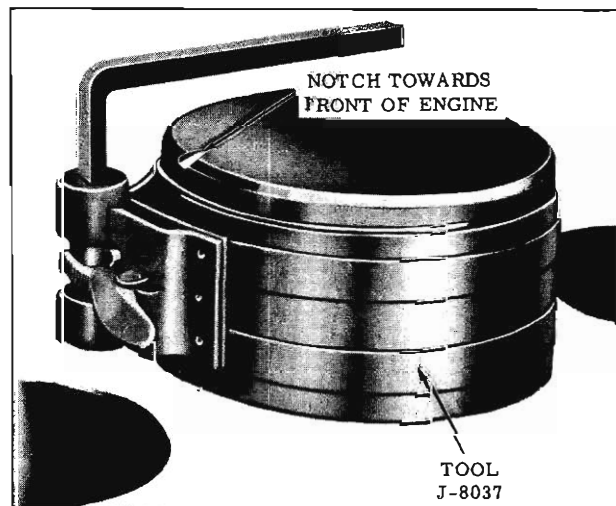

Fig. 3-133 Piston Ring Compressor
14. Lubricate the piston and rings and install in bore by compressing the rings either with a "wrap around" compressor or a split ring type such as shown in Fig. 3-133.